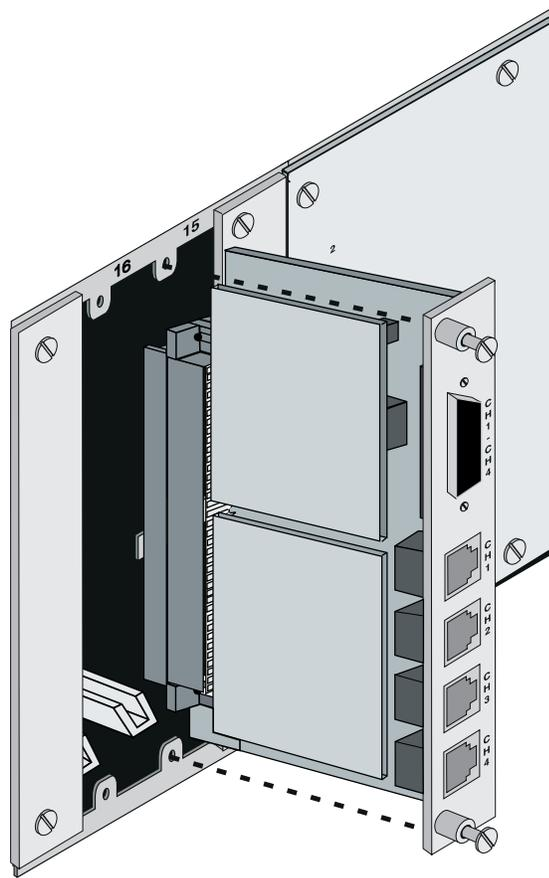

Figure 31. Inserting a Network Interface Card
- 2 Insert the NIC in the upper and lower plastic card guides of the chosen slot, connector first. Slide the board inward until its connector is firmly plugged into the midplane and its rear panel is flush with the rack. See Figure 31.